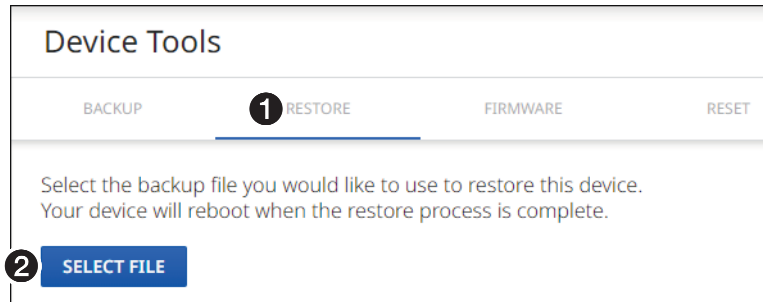

Figure 28. Tools – Restore Function
1. On the Device Tools page, click **Restore** (see figure 28, ❶).
2. Click **Select File** (❷).